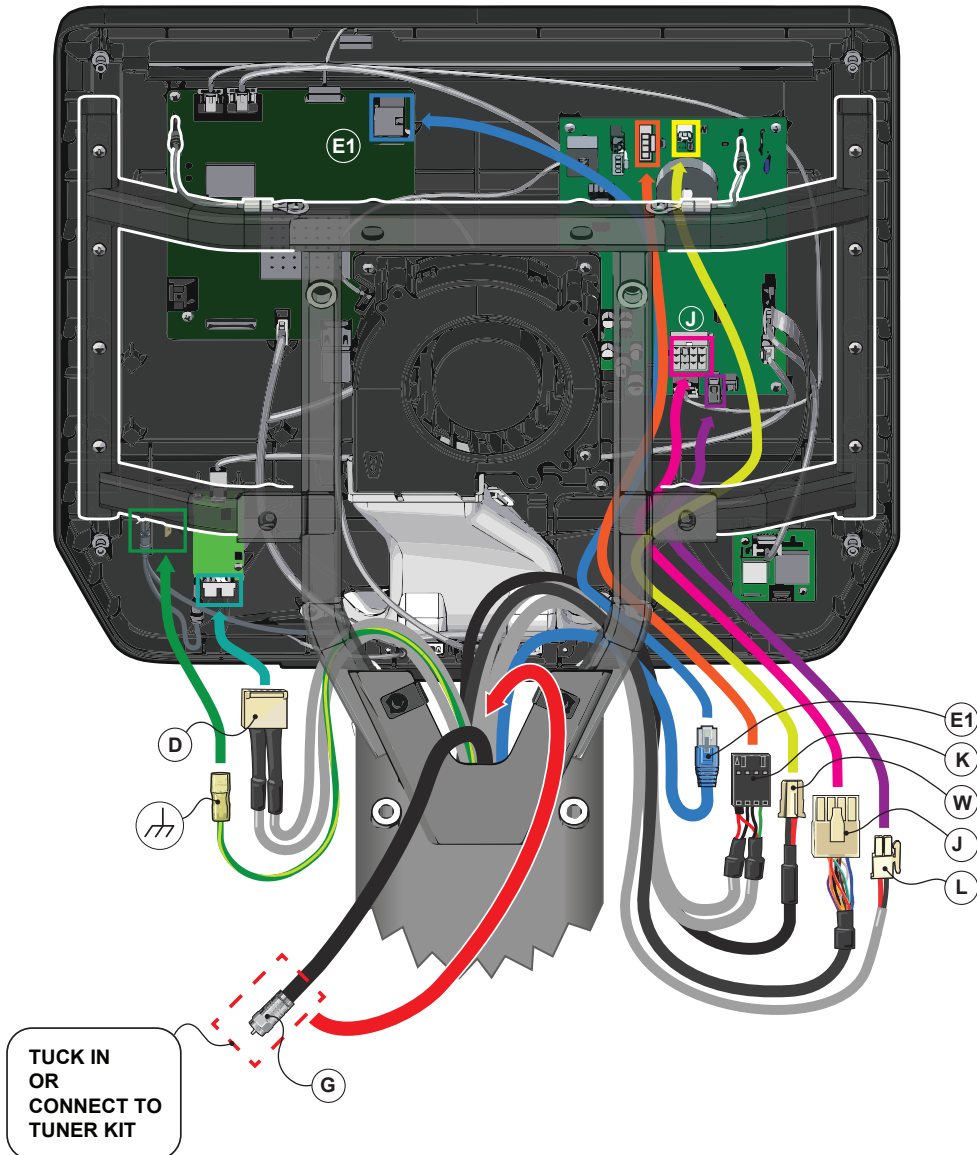

Fig. 6 - Wiring: BCS Console
6. Plug in the cables listed in Table 1 from the mast routed into the console with wire routed in front of the console weldment to prevent pinching. For specific wire routing paths see the decal on the rear console cover or Fig. 6.